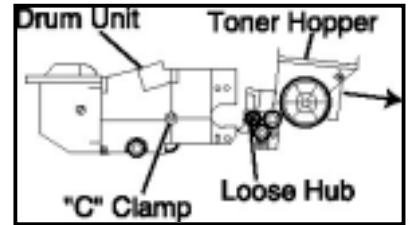

Figure 6
7. Pull developer section straight back (Fig. 6). **Note:** Be careful, all gears are loose.
8. Remove "C" clip from right side (Fig. 6) & pull rod straight out.